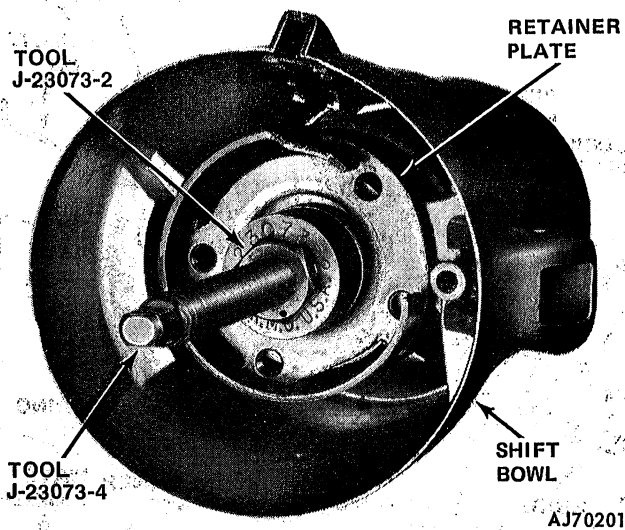

Fig. 2J-43 Positioning Shift Tube Installer Tools
- (7) Place Receiver Tools J-23073-3 and -4 over puller stud and tighten Tool Nut J-23073-2 to pull tube into shift bowl (fig. 2J-44).
- (8) Remove shift tube installer tools.
- (9) Install shift tube thrust washer and retainer plate snap ring.